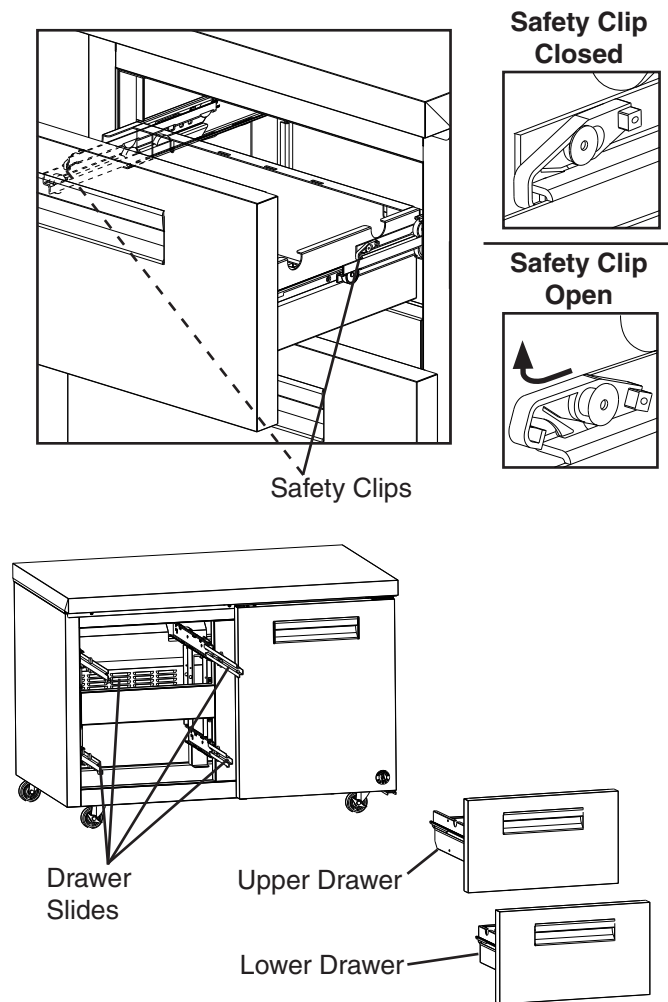

**Fig. 20**
- 2) Remove the drawers. Pull the drawer out to its fully extended position. Open the safety clips (one on each side) by sliding them forward, then rotating them up. See Fig. 20. Lift up on the handle slightly, then pull to disengage the drawer. Be sure to support the rear and front of the drawer while removing it. **WARNING! Be sure to close the safety clips when reinstalling the drawer.**